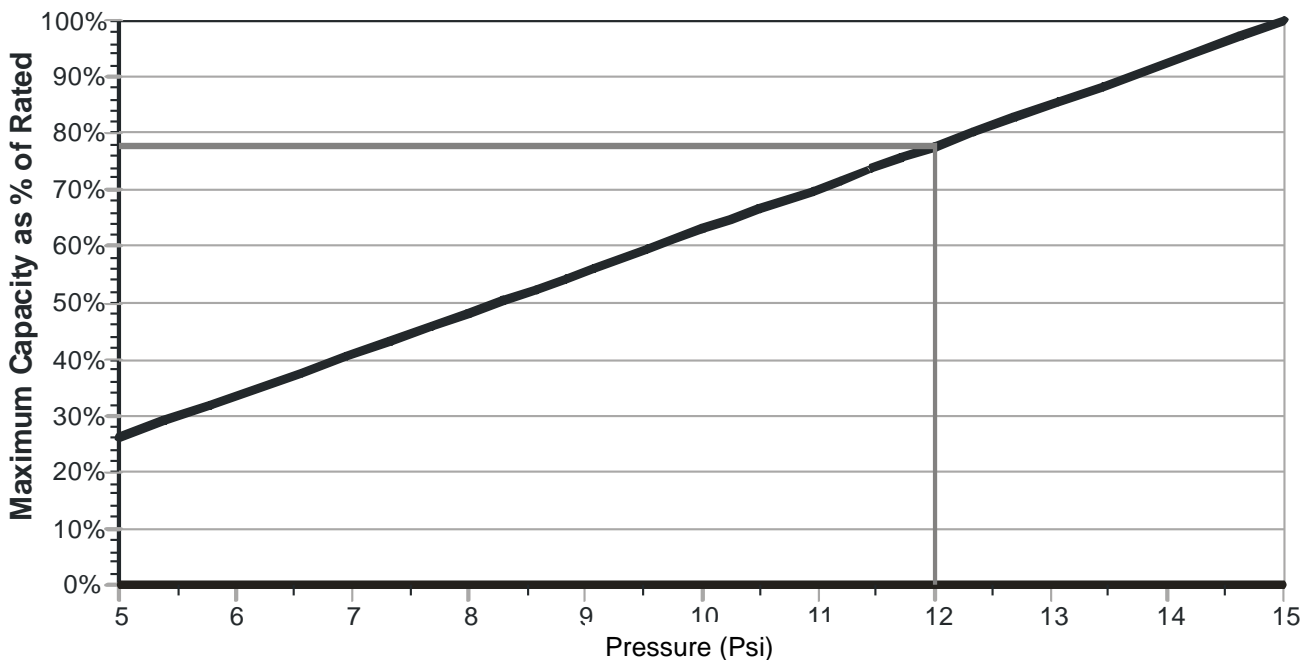

Figure 11: Output as a Function of Supply Steam Pressure
One of the unique features of the steam exchange humidifier is that its maximum output is affected by the steam supply pressure. Models are designated by the capacities at maximum supply pressure of 15 psi. An Nortec SETC 1050 will produce 1050 lb/hr (477 Kg/hr) of steam when supplied with 15 psi steam. If the available steam supply pressure is lower than 15 psi then the output will be reduced as shown in Figure 11. Table 5: Nortec SETC/P Capacities and Water Consumption also provides steam output at 10 and 5 psi supply pressures.
- 1 From Figure 11 the output will be reduced to 78% at 12 psi supply pressure.